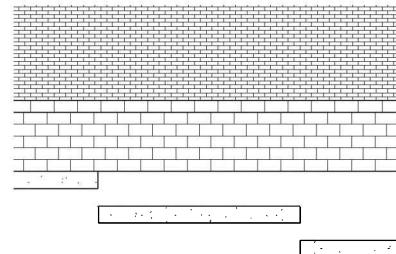

FIGURE 11-2.11
- Modify the *Base* and *Top Constraints* as required for each wall so they are in the correct position vertically (Figure 11-2.11).